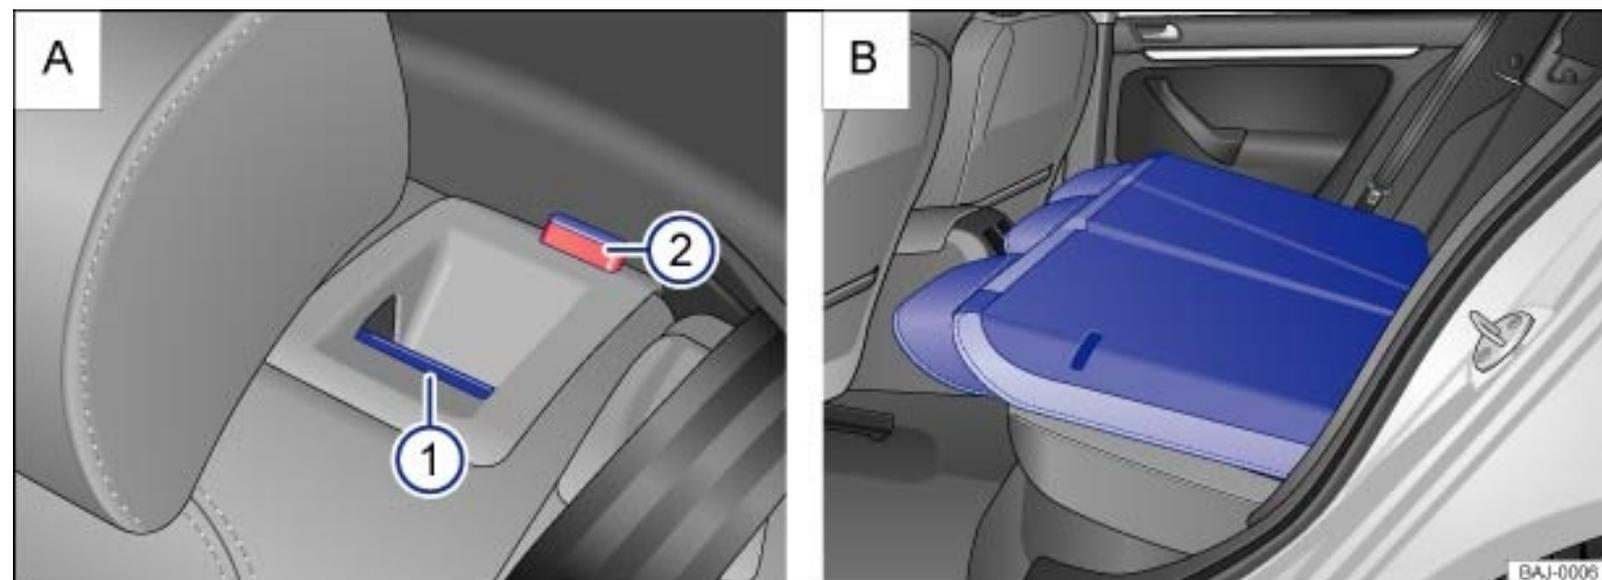

Fig. 97 : Rear seat bench: Release button ① and red mark on the
- ▶ Pull the release button → Fig. 97 ① forward while folding the rear seat backrest forward.
- ▶ The rear seat backrest is unlocked if the red mark → Fig. 97 ② can be seen on the indicator.
- ▶ The red mark on the indicator → Fig. 97 ② should no longer be visible.
- If the red mark on the indicator → Fig. 97 ② is visible, this indicates that the backrest is not latched into place. Always check to make sure that the red mark is not visible whenever the rear seat backrest is in the upright position.